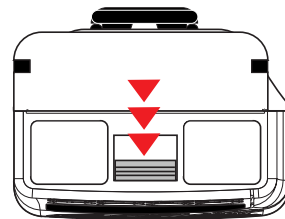

Figure 1-1. Press Battery Latch
1. The battery latch is located at the bottom of the radio (Figure 1-1). Press and hold the battery latch towards the front of the radio.